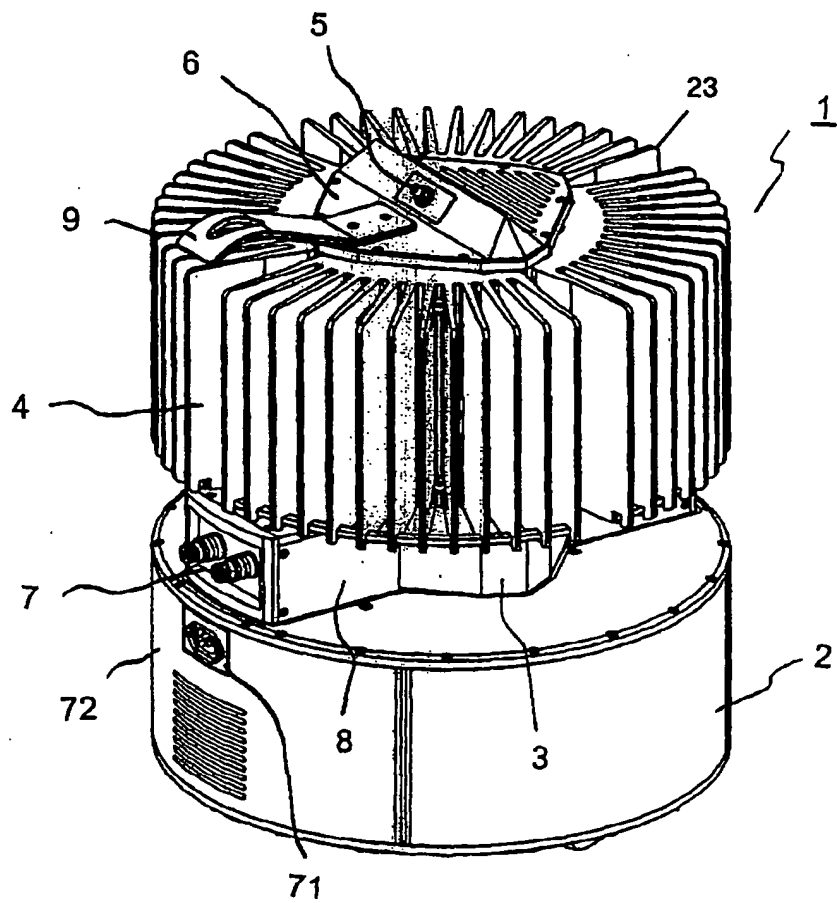

Fig. 1
Fig. 1 is a cross-sectional view of a vehicle body assembly. It shows a side rail (51) with a top flange (56) and a bottom flange (57). The side rail is connected to a cross member (50) via a bracket (53). The cross member has a central section (52) and end sections (55). The entire assembly is mounted on a base (59) via a bracket (58). A cable (66) is shown passing through the side rail.